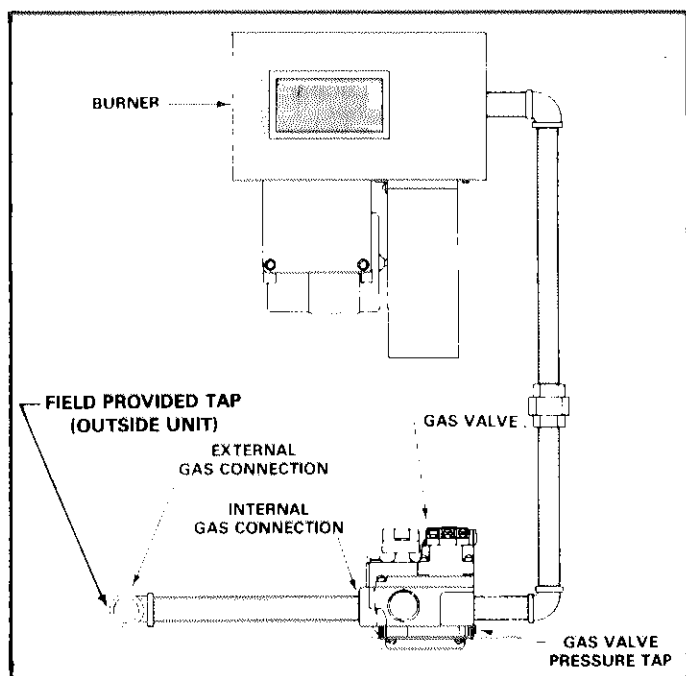

FIGURE 11
- 2 - After line pressure has been checked and adjusted, check manifold pressure. Refer to Figure 11 for location to take reading. Manifold pressure should be 4.0" w.c.